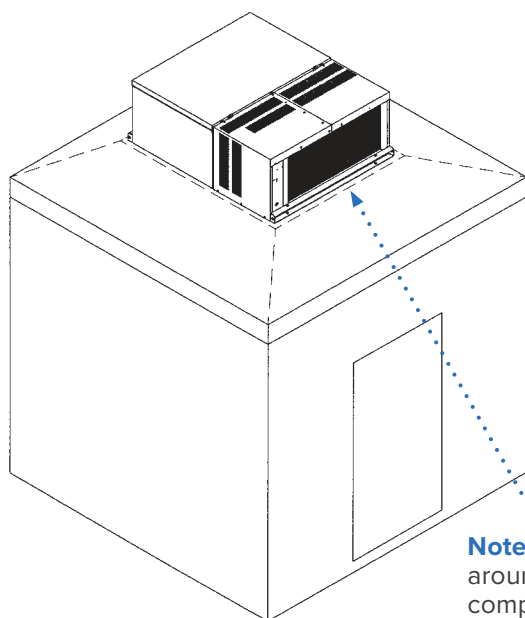

Figure 3. Outdoor unit placed on roof of walk-in cooler.
5. Place PRO³ system onto curbing and center over opening in roof box. (See Figure 3, page 7)